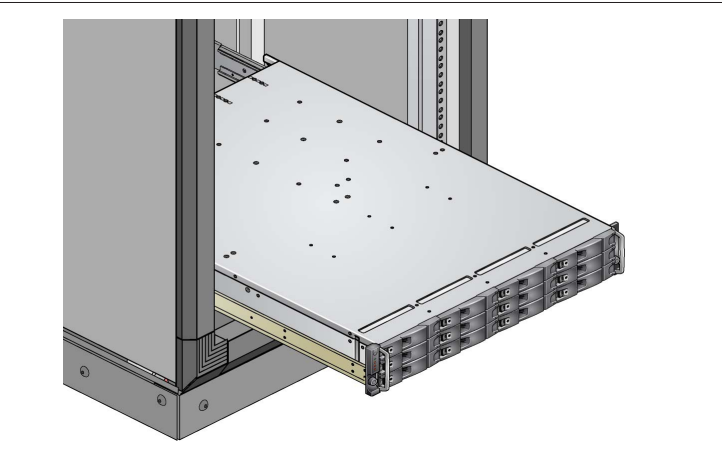

Figure 4: Mounting the Enclosure into a Rack
- Mount the enclosure in the rack as follows (refer to Figure 4):